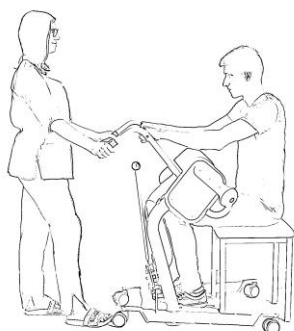

Fig. 2
- 5 Apply both caster brakes. (See Fig. 2.)